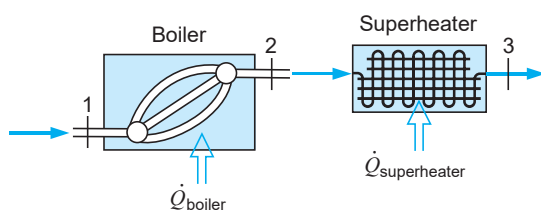

FIGURE P6.60
- 6.60** Saturated liquid nitrogen at 600 kPa enters a boiler at a rate of 0.005 kg/s and exits as saturated vapor (see Fig. P6.60). It then flows into a superheater also at 600 kPa, where it exits at 600 kPa, 280 K. Find the rate of heat transfer in the boiler and the superheater.